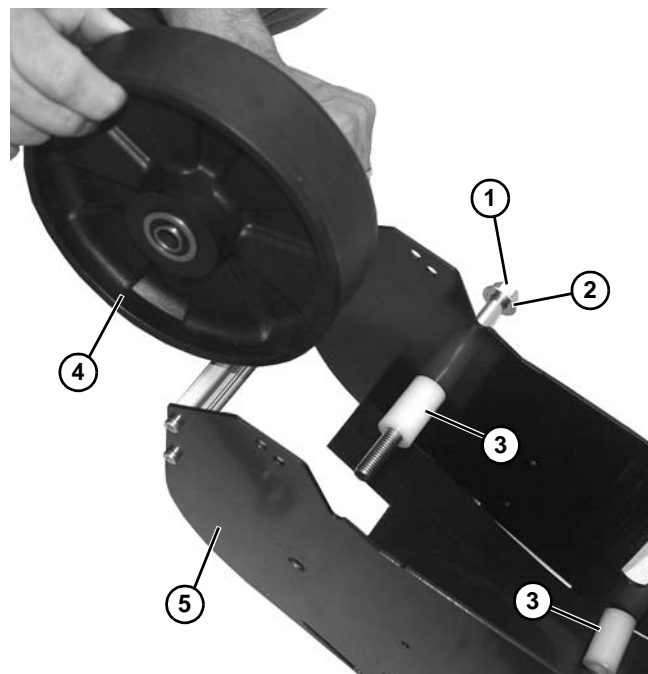

Figure 150
4. Remove bolt (Figure 150, item 1), washer (Figure 150, item 2), two spacers (Figure 150, item 3), and wheel (Figure 150, item 4) from take up assembly housing (Figure 150, item 5).